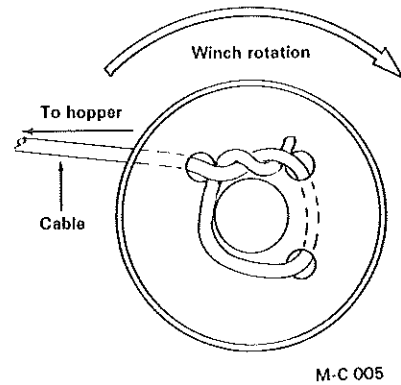

Figure 7
4. Anchor the end of the cable to the winch drum as shown in Figure 7. Crank the winch to take up the slack. Keep a minimum of four wraps of cable on the winch drum.